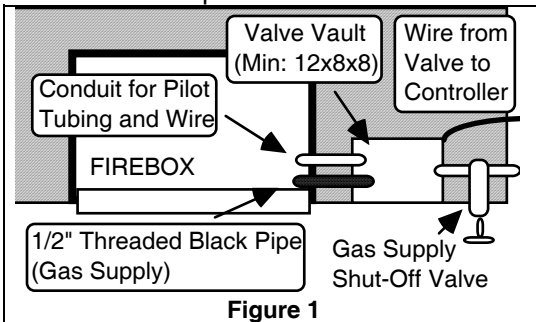
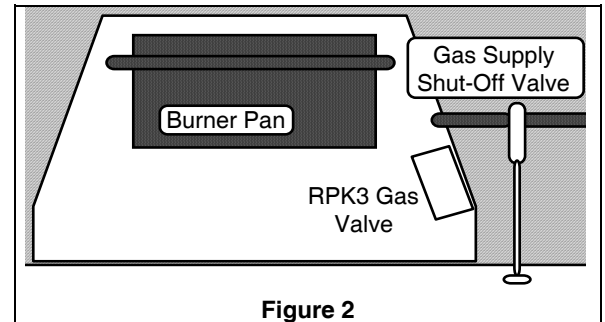

Figure 1
Figure 2
**Suggested Firebox Layout and Required Parts:** Pilot Control Valves are adversely effected by heat. The best protection is afforded by **placing safety control valve assembly outside the firebox** (Figure 1). If the valve is placed inside firebox, it must be placed as **far forward and to the side of the burner pan as possible** (Figure 2).